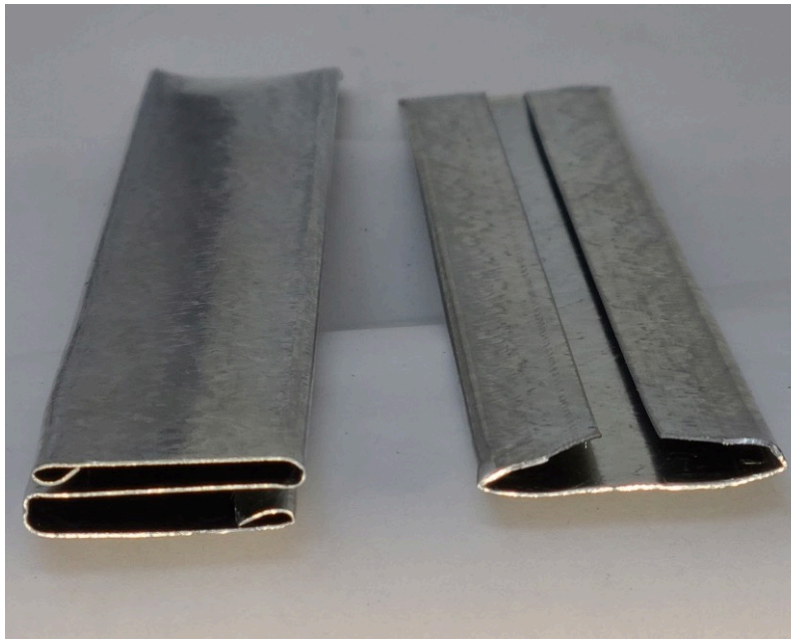

Figure 16. S-Cleat and Drive Cleat
The standard means of connecting two assembled rectangular duct sections end to end (transverse joint) is to use sleeves of galvanized sheet metal called S-Cleats (Slip) and Drive Cleats (Figure 16). The drive cleat on the right has its two inside corners trimmed off. This will make it easier to get it started onto the two duct hems.
- Figure 16. “S-Cleat and Drive Cleat” by Camosun College is licensed under a CC BY-NC-SA licence.